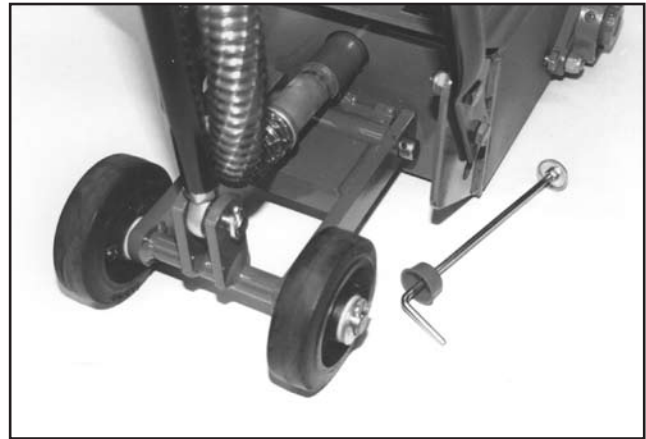

FIGURE 26
a) The Surface Planer is equipped with a 3 inch outside diameter vacuum tube adapter located at the front of the machine. An industrial type vacuum cleaner can be attached to the Surface Planer to remove/control dust and other particle contamination from the work surface. A plastic cover is provided for the 3 inch diameter adapter. Insert a vacuum hose over the tube. A hose clamp is sometimes required to properly secure the vacuum hose to the tube. FIGURE 26.